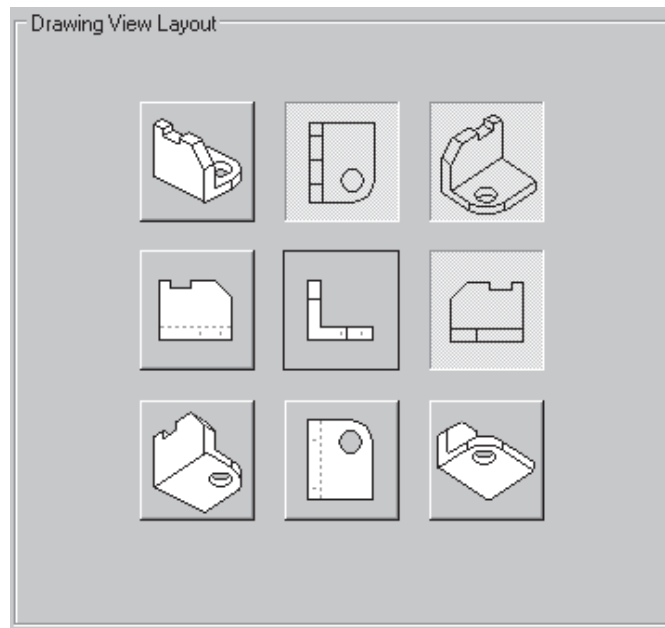

Figure 12-33 The *Drawing View Layout* area of the *Drawing View Creation Wizard* dialog box
5. Select the views shown in Figure 12-33 from the **Drawing View Layout** page and then choose the **Finish** button.